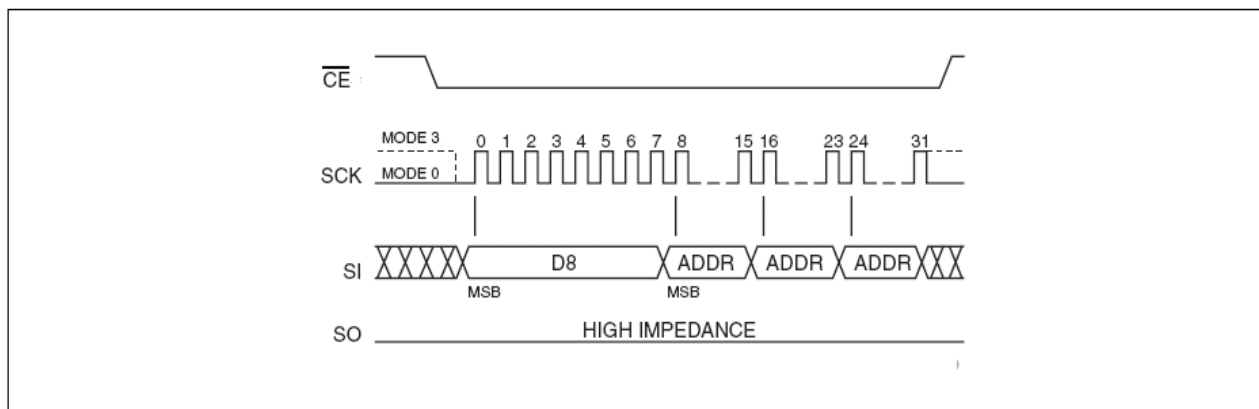

Figure 10: 64K-byte Block Erase Sequence
-A₀]. Address bits [A_{MS}-A₁₆] (A_{MS} = Most Significant address) are used to determine the block address (BA_X), remaining address bits can be V_{IL} or V_{IH}. \overline{CE} must be driven high before the instruction is executed. The user may poll the BUSY bit in the Software Status Register or wait T_{BE} for the completion of the internal self-timed Block Erase cycle. See Figure 10 for the Block Erase sequence.